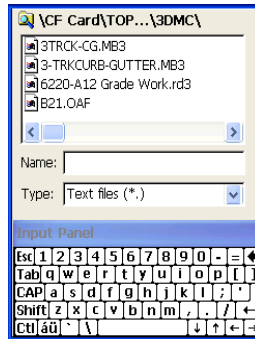

Figure 3-17. Save As Dialog Box
- On the **file explorer** dialog box, enter a name for the text file (either new or current) and select a folder in which to save the file. The default folder for exporting point text files is “My Documents”. The file extension is based on the conversion format parameter. Press **Ok** (Figure 3-17).